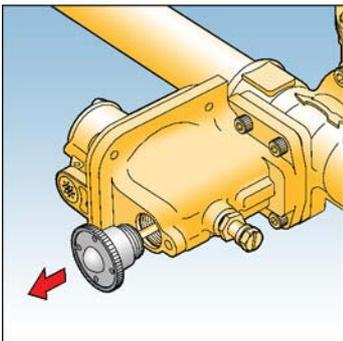

Fig. 8
17) Re-cock OPSS device by unscrewing reset spindle end cap and firmly pull. Hold in this position until the outlet pipework is fully pressurised, then release reset spindle end cap gently. Re-screw reset spindle end cap into body. See Fig. 8.
25) Re-cock UPSS device by unscrewing reset spindle end cap and firmly pull. Hold in this position until the outlet pipework is fully pressurised, then release reset spindle end cap gently. Re-screw reset spindle end cap into body. See Fig. 8.